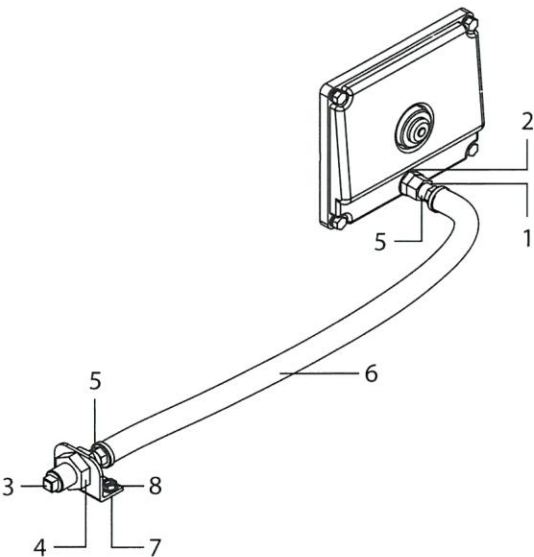

Figure 4
- 3. Install ¼" BSP fitting (Figure 4, item 1) with o-ring (2) into rear cover of pump.
- 4. Attach hose barbs (5) to each end of ¾" hose (6).
- 5. Thread one end of hose (6) into fitting (1) of rear cover.
- 6. Remove nut from ¼" union fitting (4).
- 7. Thread in hose (6) with barb end into large end of union fitting (4).
- 8. Mount bracket (7) with screws (8) into desired position to maximize drainage.
- 9. Install hose assembly with union fitting end through mounting bracket (7) or panel (Bulkhead hole is .78" diameter).
- 10. Reinstall nut onto threads of union fitting (4) and tighten. NOTE: Centerline to centerline dimension for bracket (7) hole is 1.50", drill two - .209 diameter holes.
- 11. Thread in square end plug (3) into threaded end of union fitting (4).